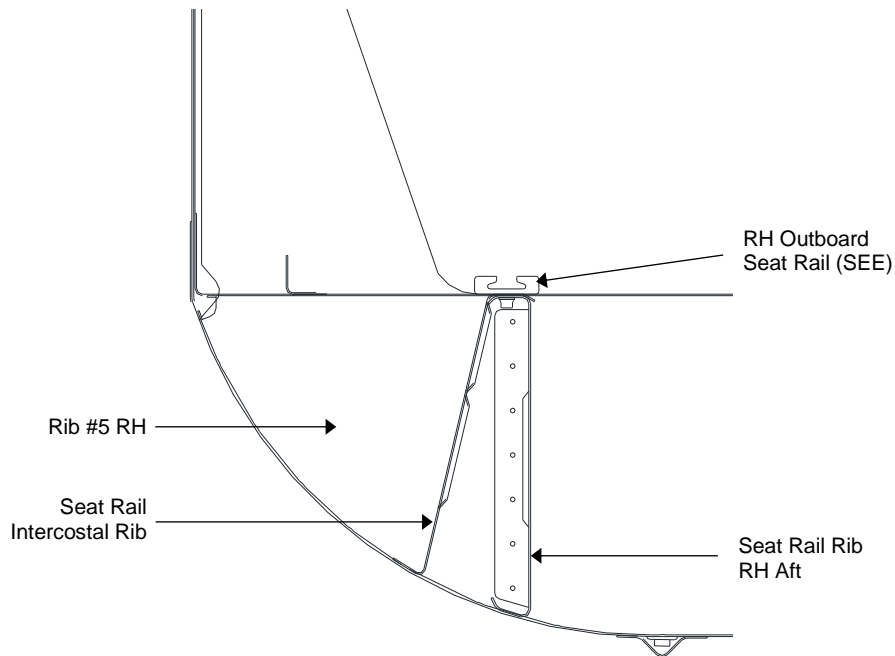

Figure 32: Intercostal Rib location (RH shown, LH similar)
- 4) De-riquet and remove the Seat Rail Intercostal rib on the affected side. (See Figure 32).